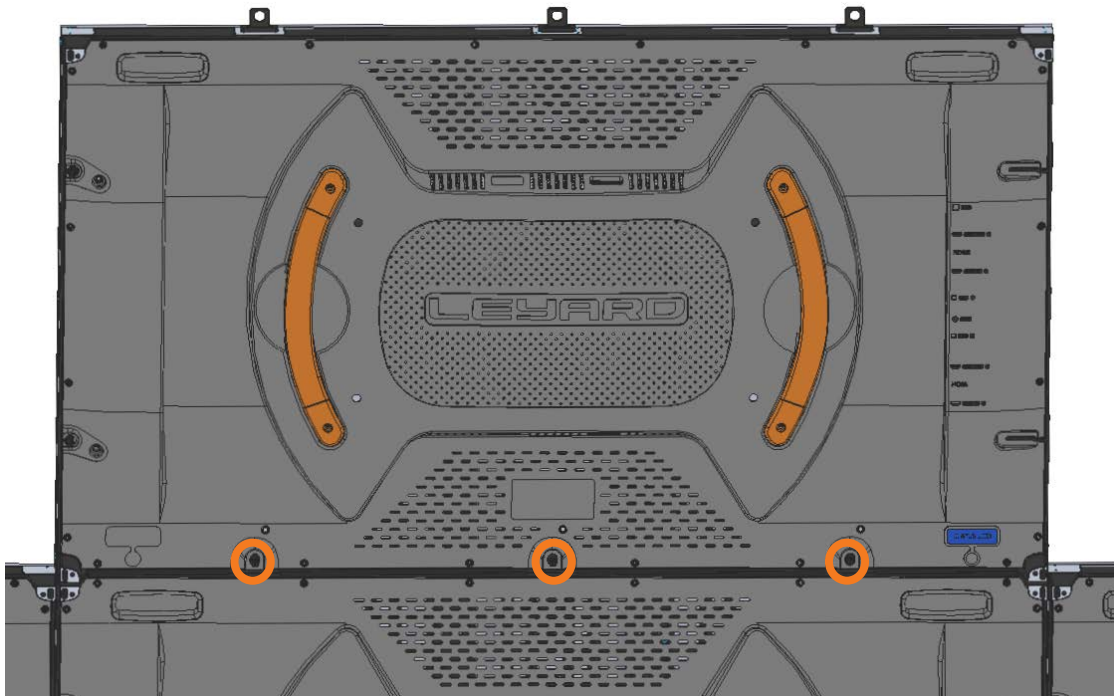

Figure 11. 5mm hex socket circled in orange. Use these to tighten cabinet down enough to secure the 4x M6 bolts. Do not fully tighten until the row is complete.
- 4 Use a 5mm hex key to tighten the three hex socket adjustment points circled in orange in Figure 11. These adjusters close the gap between the two cabinets.
- a Use a 5mm hex key to tighten (turn clockwise) the three hex socket adjustment points circled in orange in Figure 11. These adjusters will secure the seam between the cabinets and tighten it to zero gap.